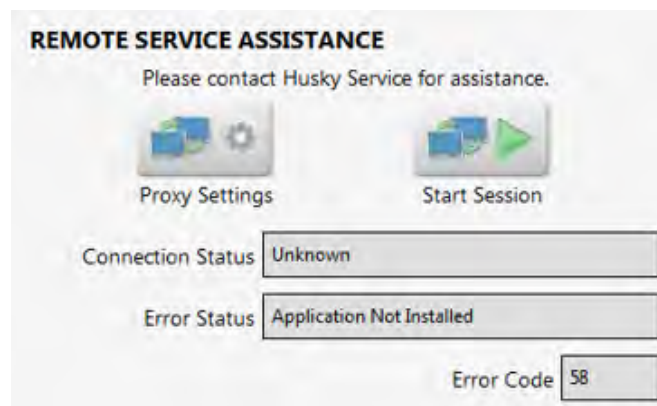

Figure 5-12 Remote Service Assistance
2. Touch the **Start Session** button in the Remote Service Assistance area of the screen. Refer to Figure 5-12.